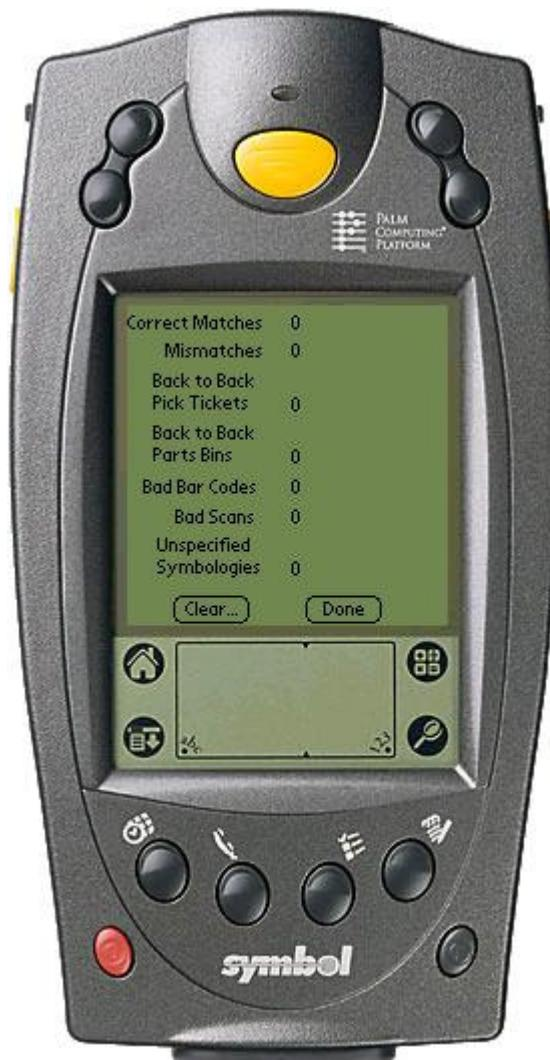
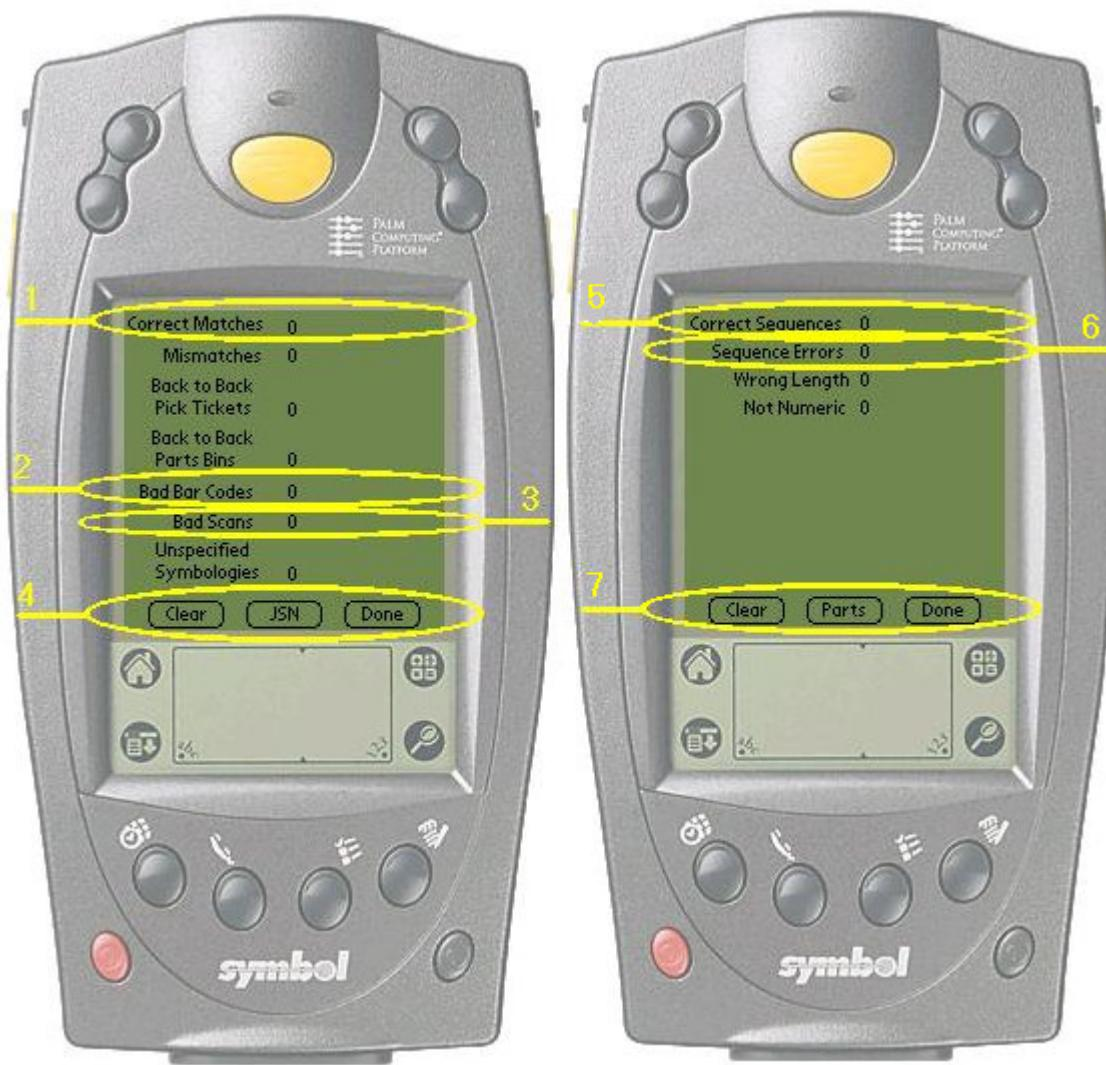

FIGURE 17. PICK TICKET/PARTS BIN COUNTER MENU
FIGURE 18. PICK TICKET/PARTS BIN & JSON (DUAL OPTION) COUNTER MENUS
The Counters menu (see figures 17 & 18) allows users or supervisors to track and clear all information related to bar codes. Figure 17 & 18 (left side) show the Part Number Counter Menu. The only difference between figures 17 & 18 (left side) is shown in figure 18, item 4 (JSN button). The JSN button appears because the DUAL JSN option mode is checked. Pressing the JSN button will display the menu in figure 18 (right side) and item 7 shows the Parts Button replacing the JSN button spot.
Correct Matches:	This counter will tell how many Pick Ticket and Parts Bin barcodes were matched. This number should match real close to your actual jobs (see figure 17 or 18, item 1). No error messages will appear.
Mismatches:	This counter will tell how many Pick Ticket and Parts Bin barcodes were mismatched (see figure 17 or 18, left side). An error message is generated for every count.
Back to Back Pick Tickets:	This counter will tell how many Pick Ticket barcodes were scanned in a row (see figure 17 or 18, left side). An error message is generated for every count.
Back to Back Parts Bins:	This counter will tell how many Parts Bin barcodes were scanned in a row (see figure 17 or 18, left side). An error message is generated for every count.
Bad Bar Codes:	This counter will tell how many Bad barcodes were scanned. This type of error generates an alarm and can usually be traced back to the printer that printed the barcode (see figure 17 or 18, item 2).
Bad Scans:	This counter will tell how many Bad scans have occurred. This type of error generates an alarm and can usually be traced back to the printer that printed the barcode (see figure 17 or 18, item 3).
Unspecified Symbolologies:	This counter will tell how many barcodes were successfully scanned and the barcode format was unknown. This type of error generates an alarm because the scan was successful, but the Pick Ticket and Parts Bin options were not setup to scan the barcode that you scanned (see figure 17 or 18, left side).
Correct Sequences:	This counter will tell how many barcodes were successfully scanned in the correct sequence. This number should come real close to your actual number of parts scanned (see figure 18, item 5).
Sequence Errors:	This counter will tell how many barcodes were scanned out of sequence. This type of error will generate an error message (see figure 18, item 6).
Wrong Length:	This counter will tell how many barcodes of the wrong length were scanned out of sequence. This type of error will generate an error message and occurs when a barcode other than what was setup is scanned (see figure 18, right side).
Not Numeric:	This counter will tell how many barcodes were scanned and found to be not numeric. This type of error will generate an error message and occurs when a barcode other than what was setup is scanned and contains letters instead of numbers (see figure 18, right side).